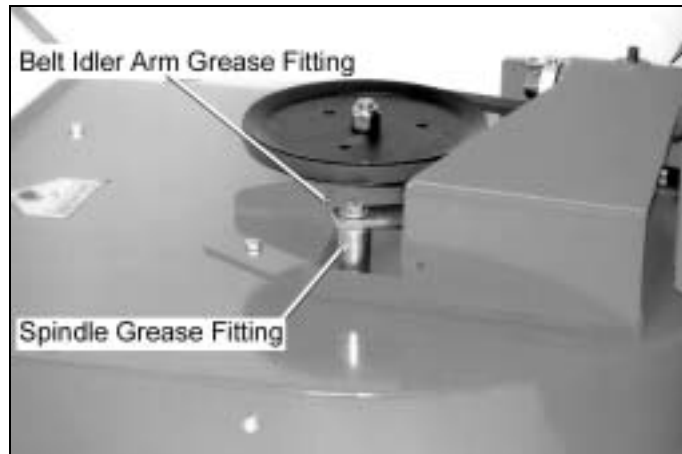

Figure 6
1. There are two grease fittings below the black belt guard that need maintenance (*Figure 6*):